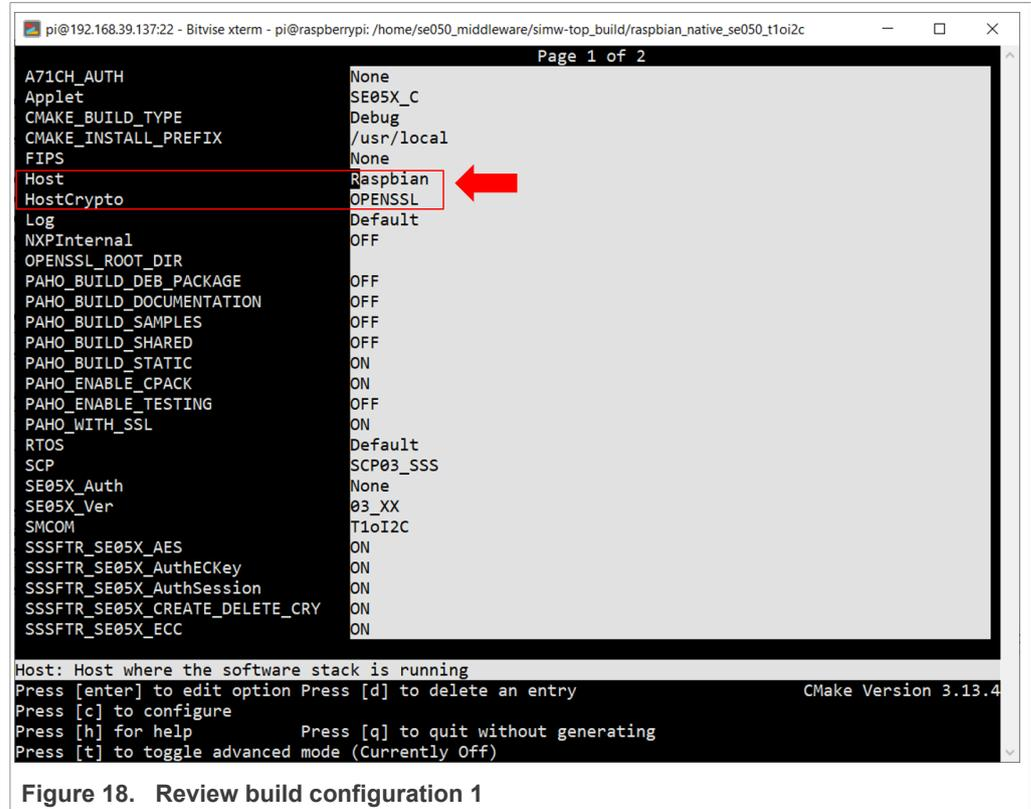

Figure 18. Review build configuration 1
- Review the build configuration and make sure that the `Host` parameter is set to the value `Raspbian`, the `HostCrypto` is set to the value `OPENSSL`, as shown in Figure 18. For changing the configuration you can use the up and down arrow keys to navigate